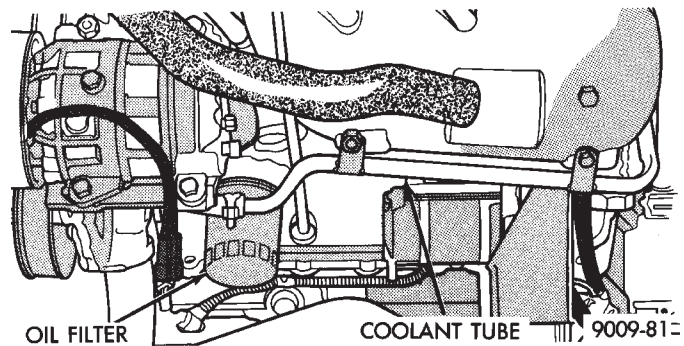

Fig. 14 Oil Filter
(1) Using Tool C-4065, unscrew filter from base and discard (Fig. 14).
(2) Wipe base clean, then inspect gasket contact surface.
(3) Lubricate gasket of new filter with clean engine oil.